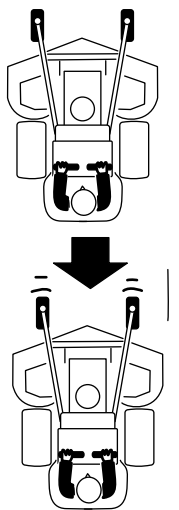

Figure 21
2. Slowly pull the motion-control levers rearward (Figure 21).